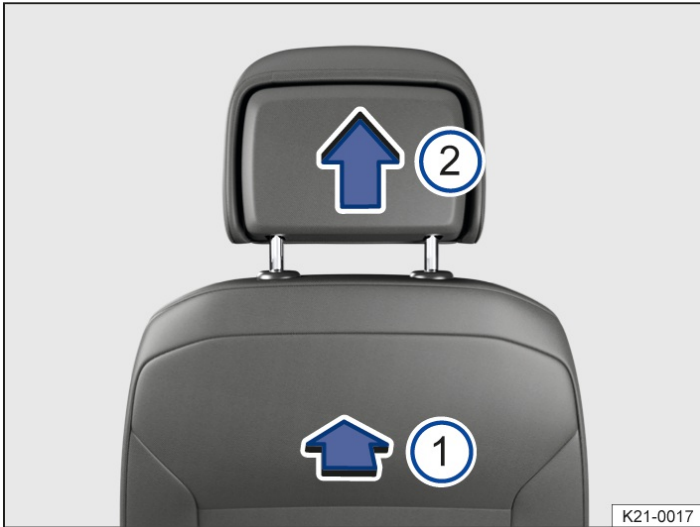

Fig. 1 Illustration: removing front head restraint.
2. To release the head restraint, feel for the recess in the marked area → Fig. 1 1 on the rear side, press in and hold in the direction of the arrow.
3. Pull the head restraint out in the direction of the arrow → Fig. 1 2.